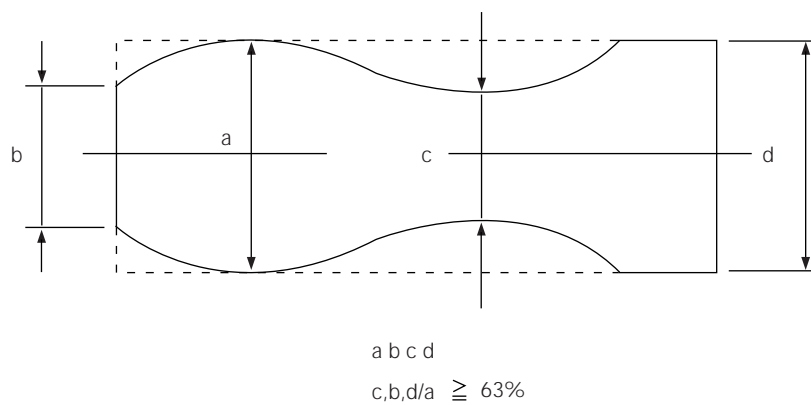

Fig. 4-65 Envelope Waveform Adjustment
3. Make sure the video envelope waveform (at its minimum) meets the specification shown in Fig. 4-65.